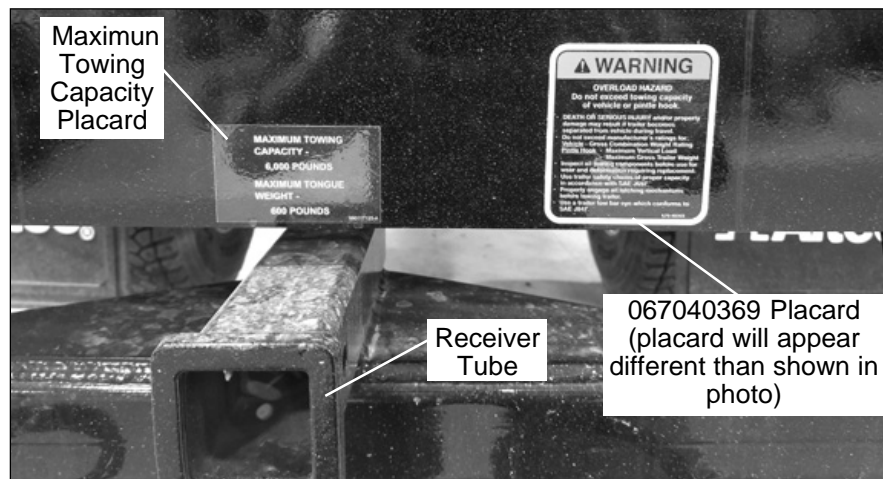

Figure 5 — Placard Installation
1. Install the placards included with the CSN (refer to Figure 5) on the rear of the body above the receiver hitch.